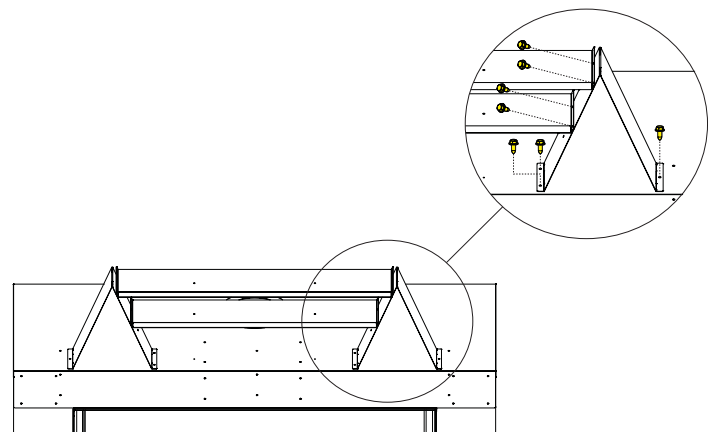

Figure 11
3. Use the two #10 x 1/2" screws removed in Step 1 and four #10 x 1/2" screws provided in the hardware package to secure the standoffs to the firebox top (3 each side. **See Figure 11.**
4. Secure the short and long supports to the standoffs using eight 10 x 1/2" screws (4 each support, 2 each side). **See Figure 11.**